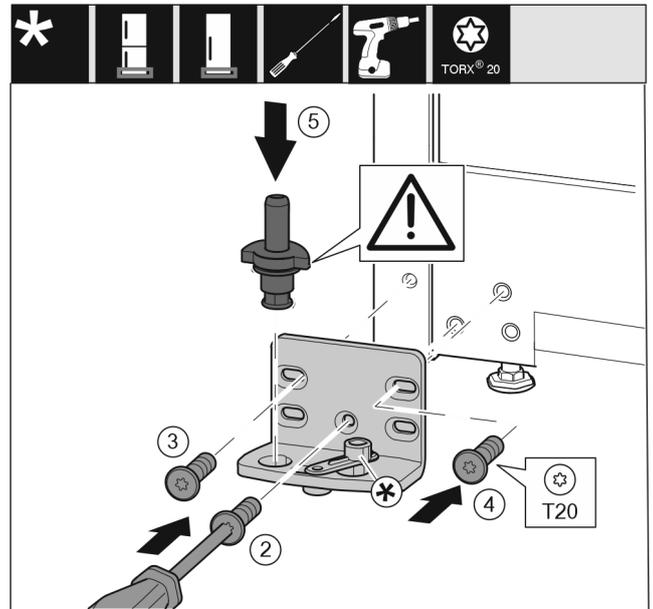

Fig. 25
- ▶ Place the swap bearing block on the other side and use a T20 screwdriver to screw it on. Start with screw 2 at the bottom in the middle. Fig. 25 (2)
- ▶ Tighten screws 3 and 4. Fig. 25 (3,4)
- ▶ Insert the bearing bolt completely. Ensure that the latching cam is pointing towards the rear. Fig. 25 (5)